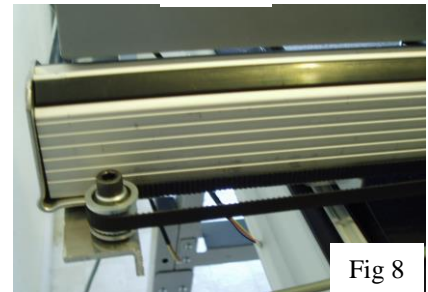

Fig 8
1. Locate the rear pulley bracket. Line the 2 pre-drilled holes in the bracket with the 2 predrilled holes in the carriage (at the back side of the carriage). The distance between the belt tension wheel and the carriage should be between 1/8-1/4” (the tension wheel will be on the right side if at the back of the carriage). Tighten securely (Fig 8).